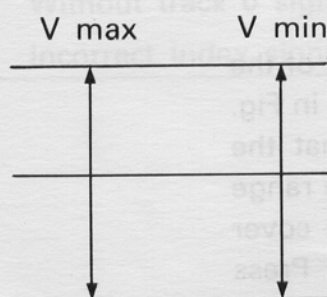

Fig. 8-4-1. Head Amplitude
- Press the 3 key to select the Head Amplitude test. This will write a 2F pattern to track-39. When the waveform appears on the oscilloscope, as shown in Fig. 8-4-1, adjust the pad position with a screwdriver for the greatest signal amplitude with the least amount of modulation.